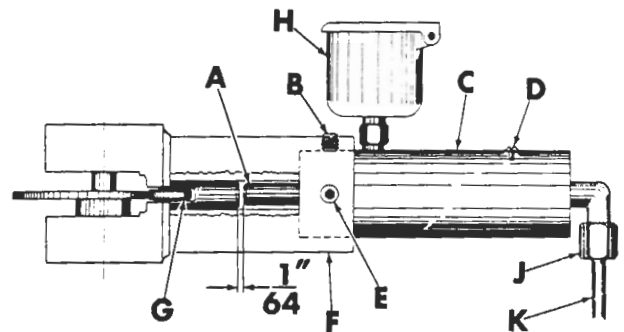

Figure 6
11. Loosen two set screws (B and E, fig. 6) in variable cam housing (F) and slide cylinder (C) out of housing.
14. Line up set screw mark on variable control cylinder with set screw hole (E) in cam housing -- tighten set screws.